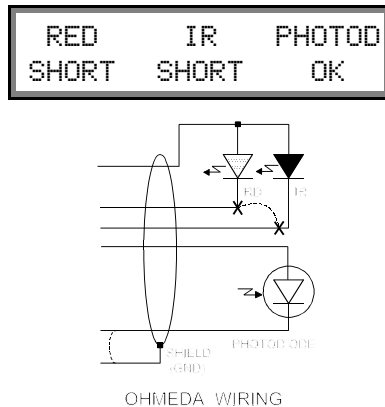
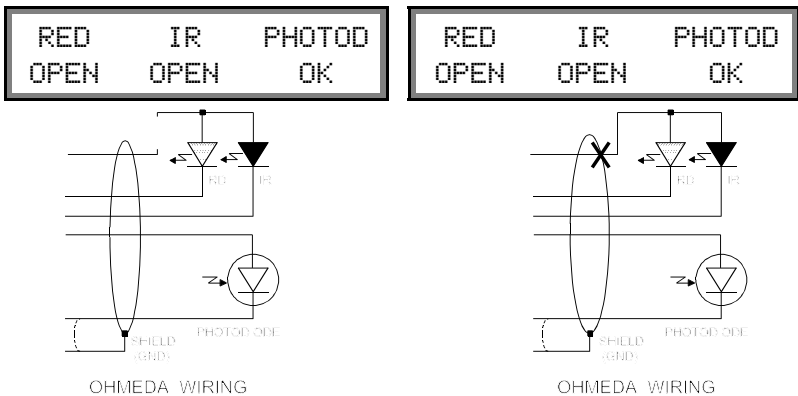

Figure 7 - Ohmeda LED cathodes shorted together.
Figure 9 - Ohmeda common anode lead open circuit; Ohmeda common anode lead shorted to cable shield.
8. Additional fault conditions which are relevant to sensors having the Ohmeda wiring configuration are illustrated in **Figure 7** to **Figure 9**, along with the corresponding MODE 1 displays. **Note that the Sensitest indicates the red and infrared LEDs as "OPEN" for both fault conditions shown in Figure 9.** For the case where the common anode lead is open circuit, the condition is indicated correctly. However, the **Sensitest** is unable to distinguish this fault from a short between the common anode lead and the cable shield. In both cases, however, the fault is localized to the common anode wire of the sensor cable.
Figure 8 - Omeda photodiode shorted to LED common anode. Note that for some sensors, this particular fault may be indicated on the LCD as illustrated in **Figure 9**.